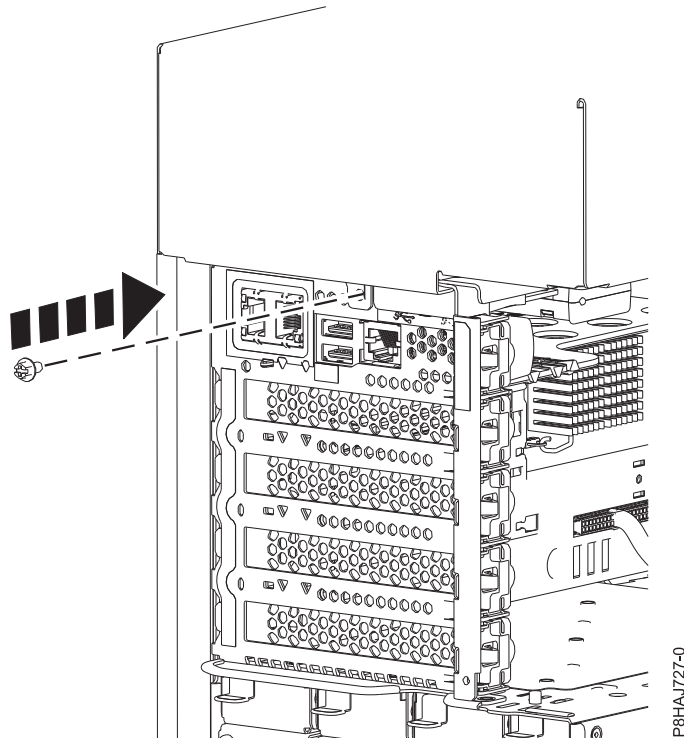

Figure 53. Installing the 8286-41A side cover screw
- 5. Install the side cover rear screw with a Phillips screwdriver as shown in Figure 53 on page 65.